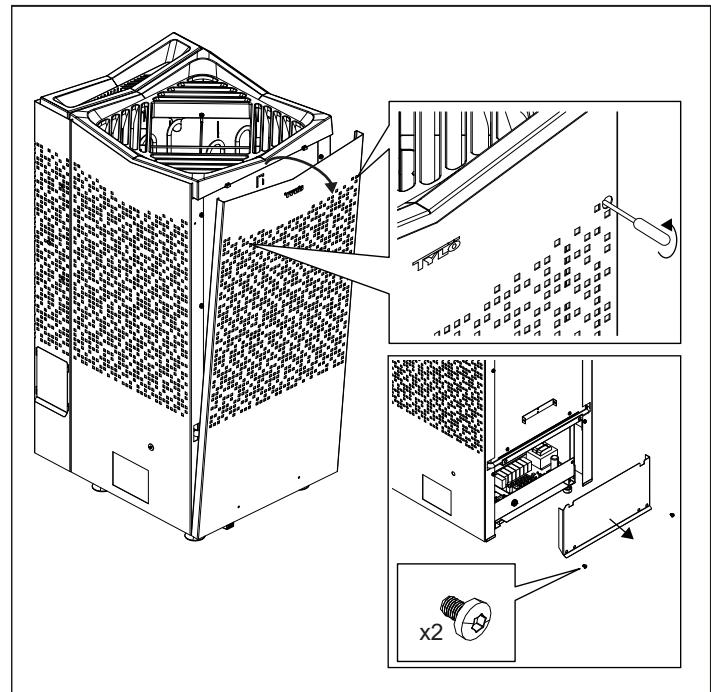

Fig 8: Undo the hidden screws, torx 20, take off the front panel and the lower hatch
2. Lift of the front panel and front hatch, see Figure 8.